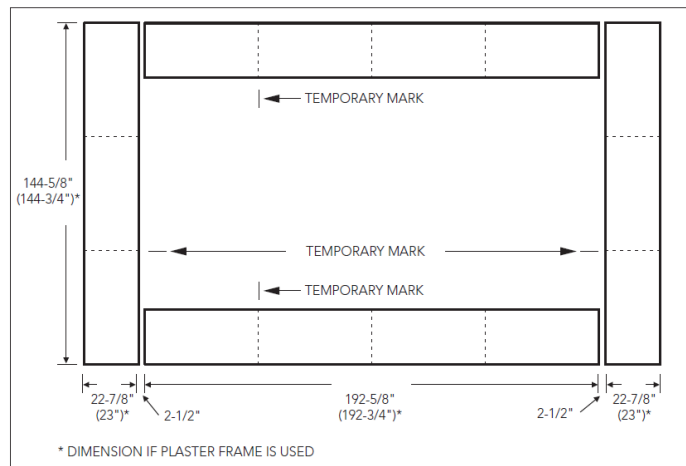

Figure 8c
- c.) A rectangular pattern is a common layout pattern. Four continuous rows are used to create this pattern. It is critical to leave a minimum of a 2-1/2" space where the end of one row meets the side of another row. This holds true even when the fixtures meet at the corners. Review Figures 8c and 8d to see this condition illustrated.